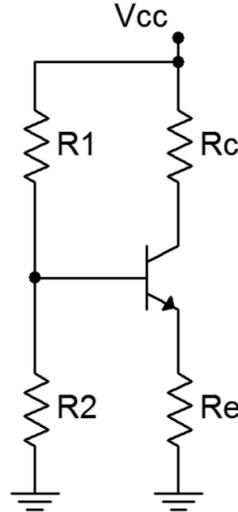

Figure 1
1. Consider the circuit of Figure 1 using  $V_{cc} = 10$  volts,  $R_1 = 10$  k $\Omega$ ,  $R_2 = 3.3$  k $\Omega$ ,  $R_e = 4.7$  k $\Omega$  and  $R_c = 5.6$  k $\Omega$ . Using the approximation of a lightly loaded “stiff” voltage divider, determine the ideal end points of the DC load line and the Q point, and record these in Table 1.
3. Build the circuit of Figure 1 using  $V_{cc} = 10$  volts,  $R_1 = 10$  k $\Omega$ ,  $R_2 = 3.3$  k $\Omega$ ,  $R_e = 4.7$  k $\Omega$  and  $R_c = 5.6$  k $\Omega$ . Measure the base, emitter and collector voltages and record them in the first row of Table 2 (Experimental). Compute the deviations between theoretical and experimental and record these in the first row of Table 2 (% Deviation).
- Build the circuit of Figure 1 in a simulator. Run a DC simulation and record the resulting transistor voltages in Table 6.